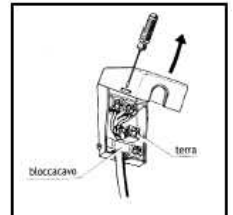

Fig. 10
- Open the cover of the junction box, Fig. 10 and, for Electric Hobs with 4 burners, Fig. 10A.